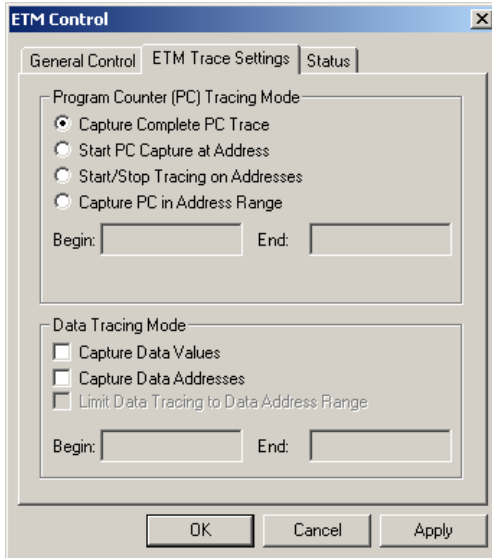

FIGURE 22 ETM Trace Settings tab.
3. Select the **ETM Trace Settings** tab to make sure that the **Capture Complete PC Trace** is enabled and that the Data Tracing check boxes are cleared (Figure 22). Click **OK** to complete the trace configuration setup.